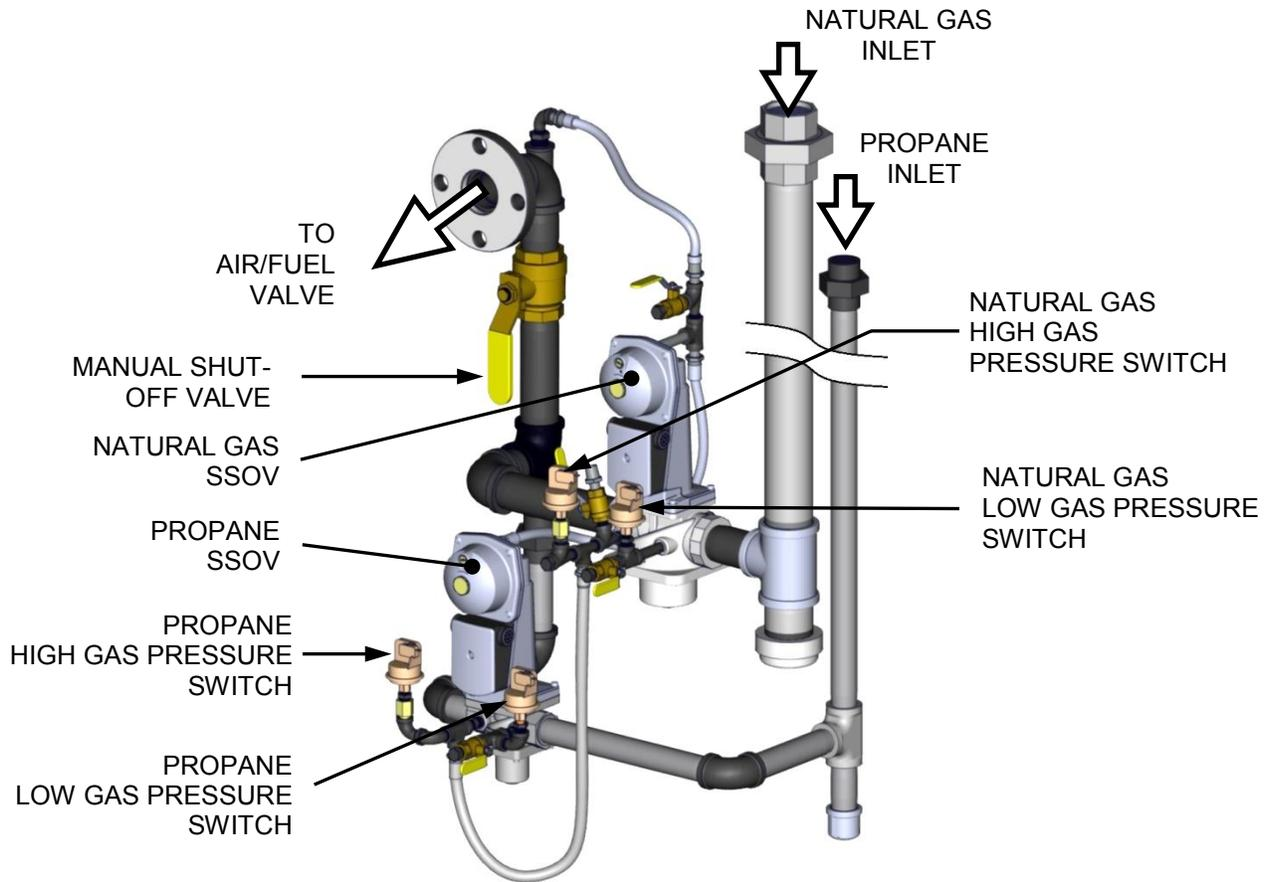

Figure 3-3: BMK 1500DF/2000DF: SSOV Location
2. The unit checks to ensure that the Proof of Closure (POC) switches in the downstream Safety Shut-Off Valve (SSOV) are closed. See Figure 3-3 for SSOV locations.